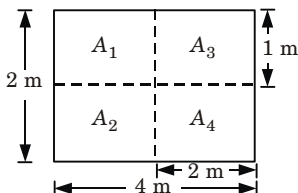

Fig. 4.4.1.
i. The rectangular area divided into small rectangle is shown in Fig. 4.4.1.